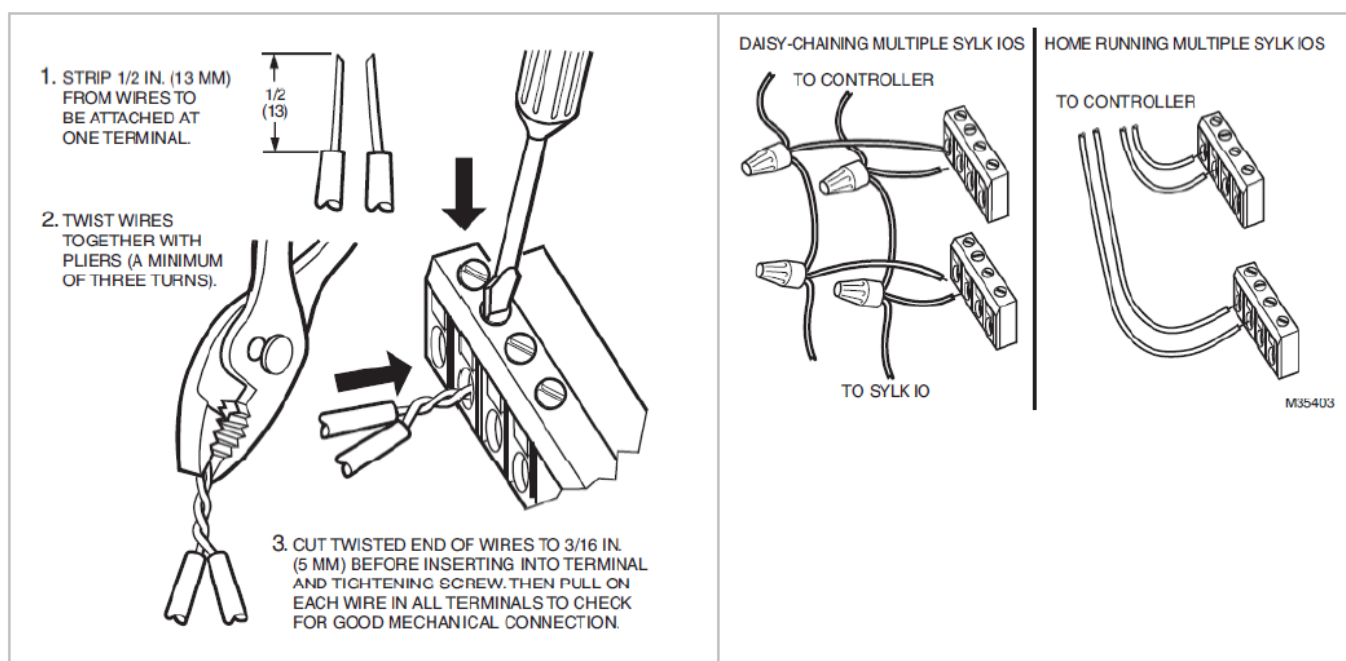

Figure 4: Attaching two or more wires at terminal blocks.
- When attaching two or more wires to the same terminal, other than 14 AWG (2.0 sq mm), be sure to twist them together. Deviation from this rule can result in improper electrical contact (see Fig.4).
3. If two or more wires are being inserted into one terminal location, twist the wires together a minimum of three turns before inserting them (see Fig. 4).